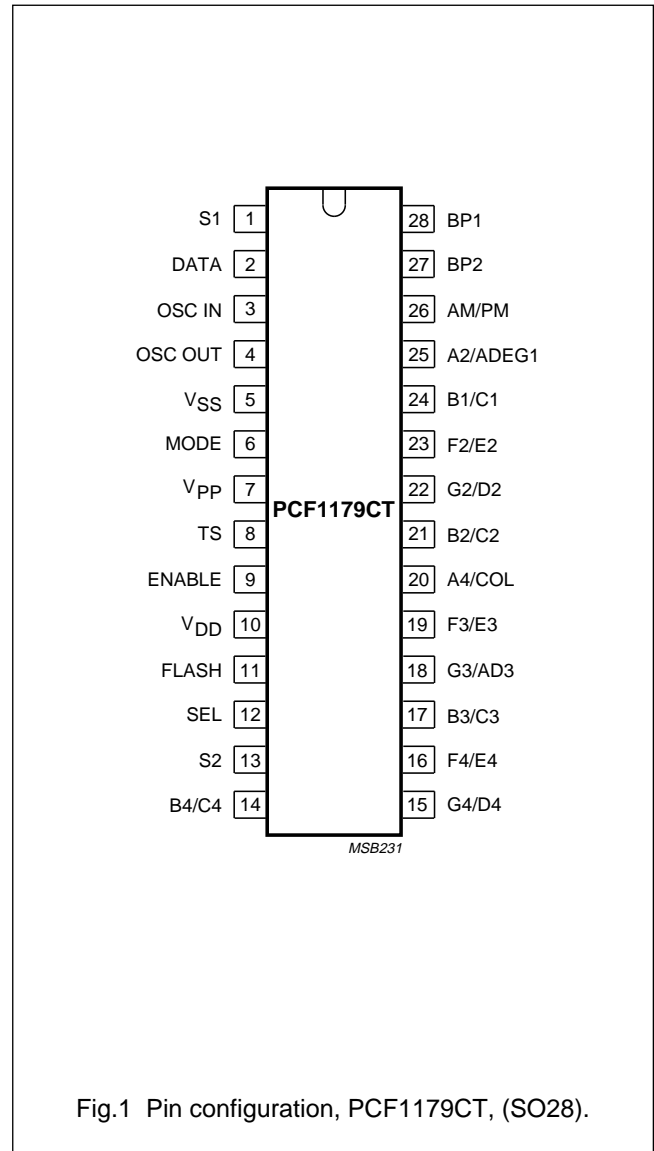

Fig.1 Pin configuration, PCF1179CT, (SO28).
1. See Fig.1 and Chapter “Package outline” for pin layout and package details.